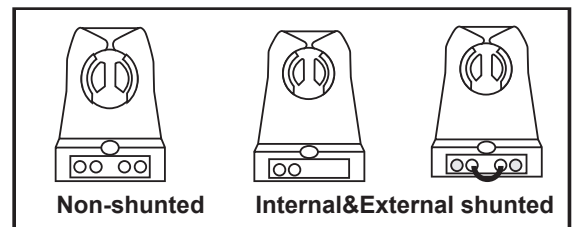

Fig:1 - Lampholder Type
- 7) Identify what type of lampholders are in fixture (Fig.1), if existing lampholder is internally shunted, then replace with new non-shunted lampholder if lampholder is shunted with a jumper wire (Fig.2), remove wire to convert into non-shunted.